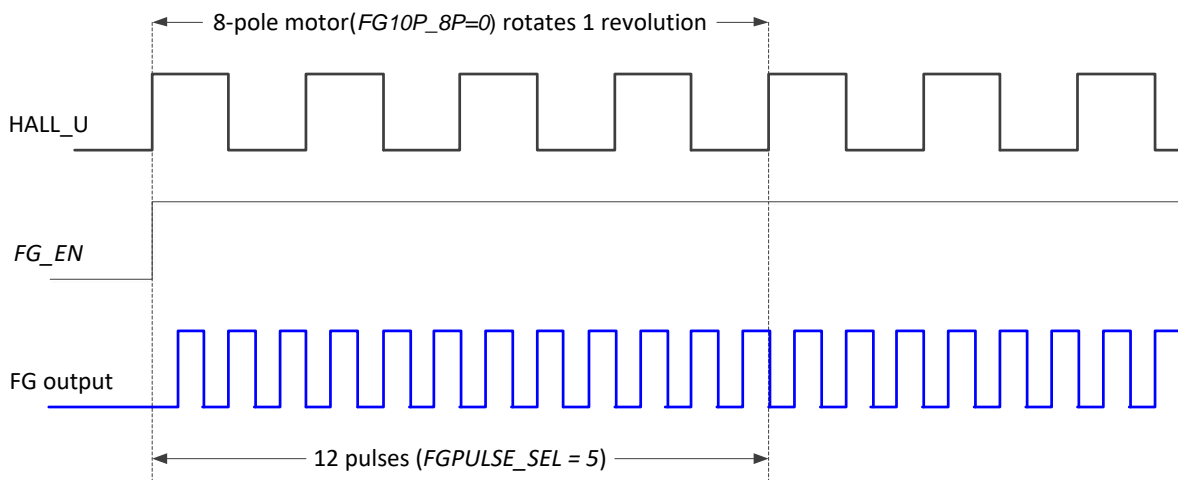

Figure 19.2.3 FG output when FG_EN=1, FG10P_8P=0, and FGPULSE_SEL=5
In addition to providing motor electrical cycle (motor speed) information, Motor Speed Observer can also output a fixed pulse number in a hall cycle according to the setting of FG_CTRL SFR (see Table 19.2.3), that is, it can be used as a frequency generator (FG). Figure 19.2.3 shows an FG output waveform when the control bits in the FG_CTRL SFR are FG_EN=1, FG10P_8P=0, and FGPULSE_SEL=5.